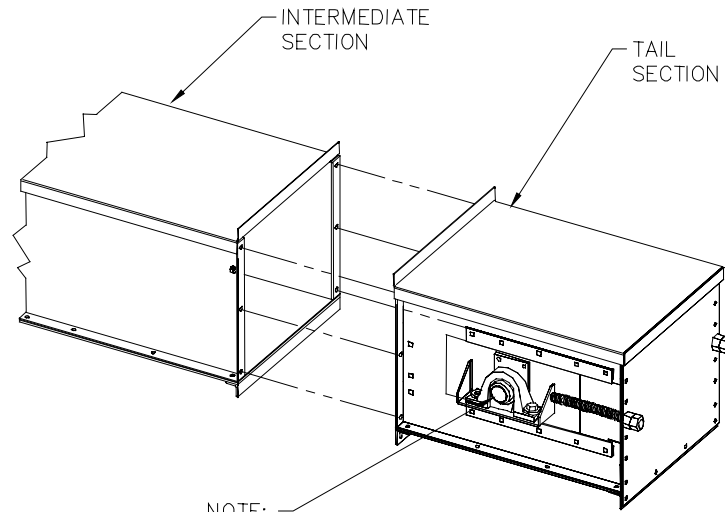

Figure 2-3C Tail Section Assembly
- I. Install tail section as shown in **Figure 2-3C**. Make certain at this time that the take-up is in the full forward position to allow easy connection of chain.